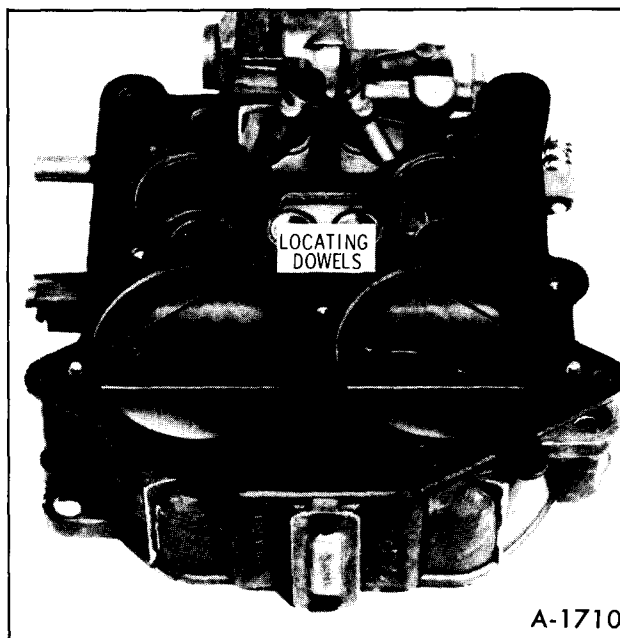

Figure 24—Throttle Body Gasket
1. Install new throttle body to bowl gasket over two locating dowels on the bowl as shown in Figure 24.